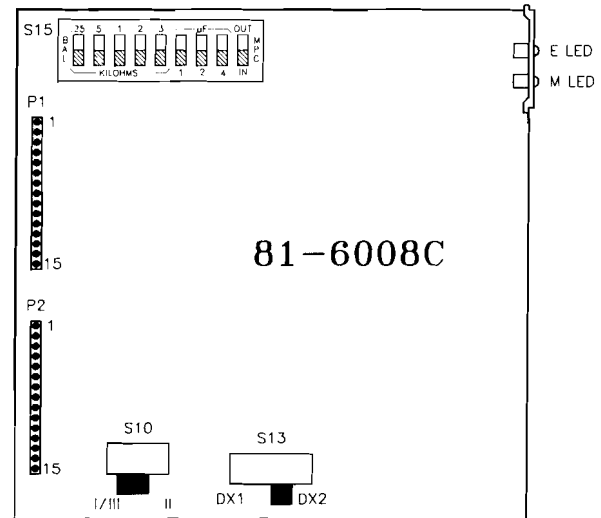

figure 5. 6008C option and alignment switch locations
3.03 Before the 6008C is placed into service, three option switches on the subassembly must be set and the subassembly's integral DX balance network (also switch-controlled) must be aligned. Two of the option switches are two-position slide switches, while the third is one position of a nine-position DIP switch. The remaining eight positions of the DIP switch control the DX balance network. Figure 5 shows the locations of these switches on the subassembly's printed circuit board. In addition to the 6008C's switches, several option and alignment switches on the host 6131 must be set as well. Instructions for setting the 6131's switches are provided in the Tellabs 6131 practice, while instructions for setting the 6008C's switches are provided below.